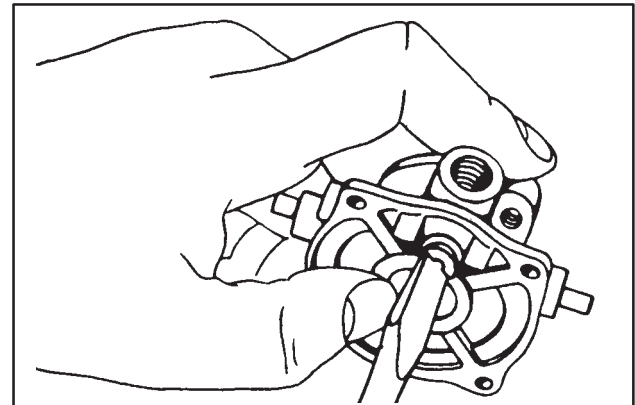

Fig. 273 – REMOVING INLET VALVE SEAT
7. With wide heavy screw driver remove the seat, Fig. 273. Pull venturi out of lower body.